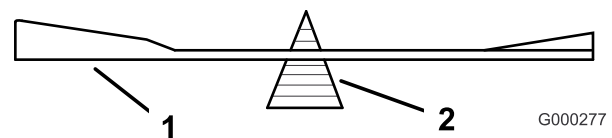
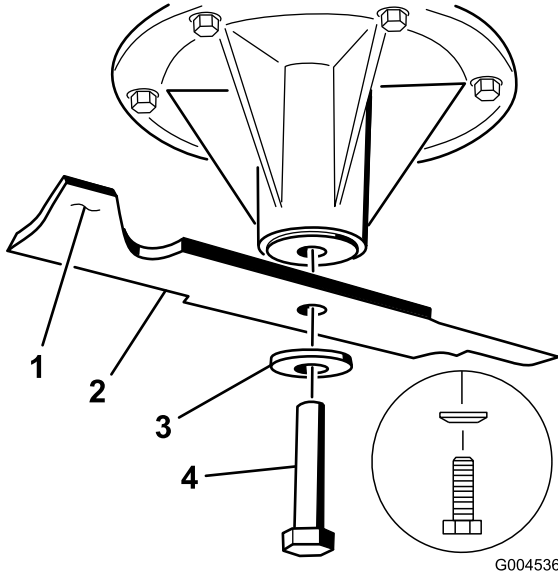

Figure 69
Figure 70
2. Remove the blade bolt, spring disk and blade from the spindle shaft (Figure 70).
2. Check the balance of the blade by putting it on a blade balancer (Figure 69). If the blade stays in a horizontal position, the blade is balanced and can be used. If the blade is not balanced, file some metal off the end of the sail area only (Figure 70). Repeat this procedure until the blade is balanced.
1. Install the blade onto the spindle shaft (Figure 70).
2. Install the spring disk and blade bolt. The spring disk cone must be installed toward the bolt head (Figure 70). Torque the blade bolt to 85-110 ft-lb (115-150 N-m).